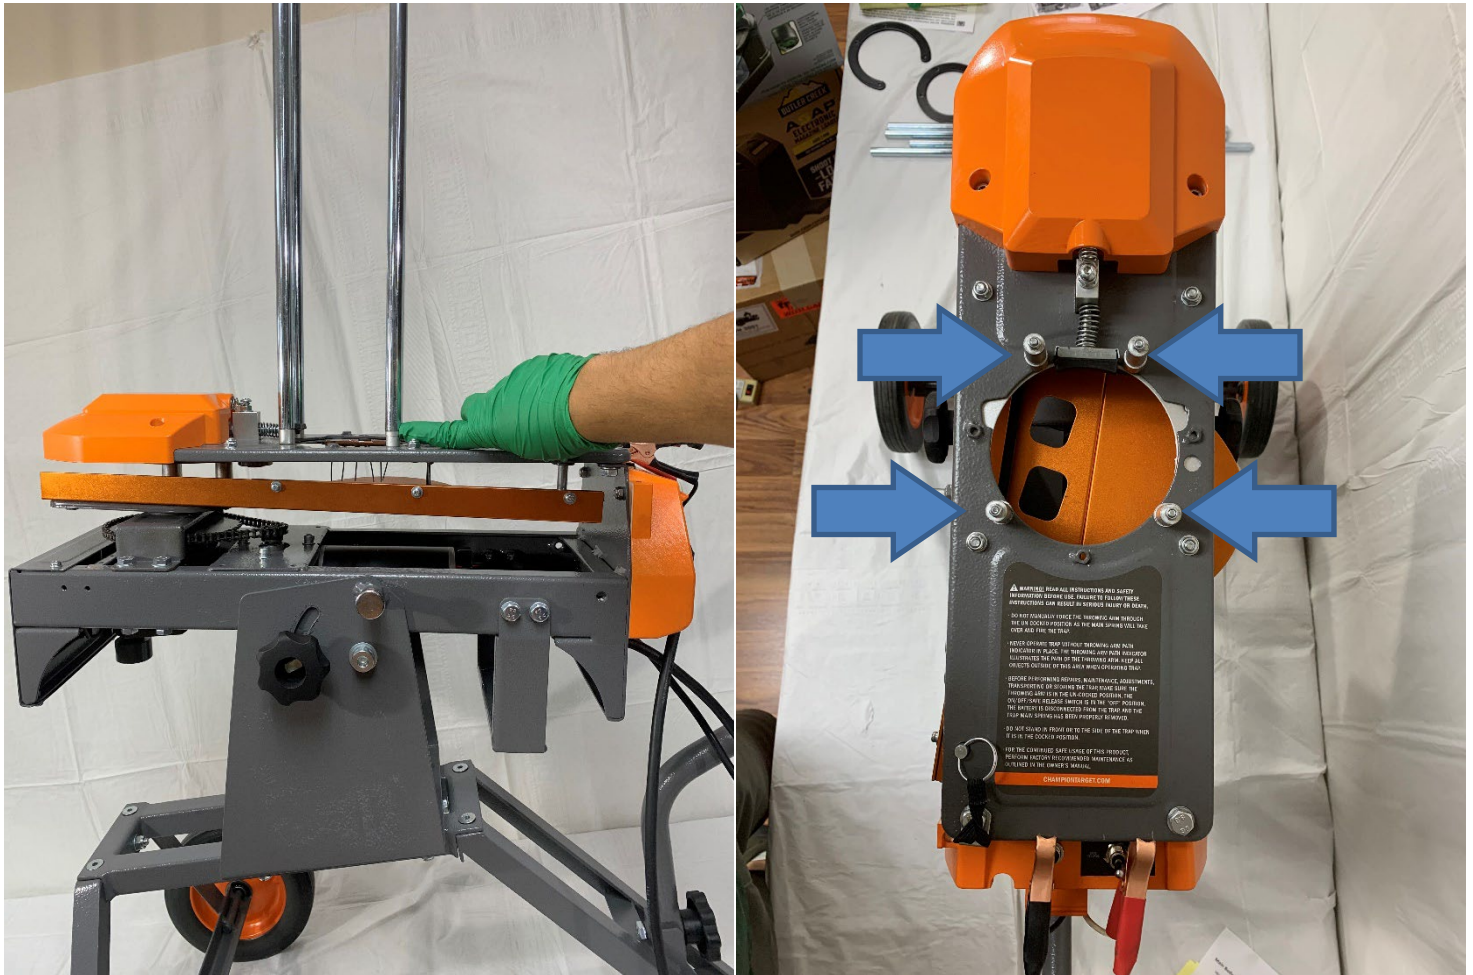

Figure 17
- A. Insert the Magazine Assembly onto the Trap Body Assembly (TB1) via the four magazine studs on top of the top plate, as shown in figure 17.